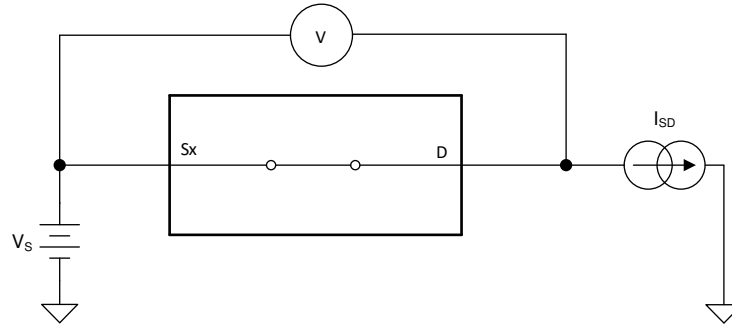

图 7-1. On-Resistance Measurement Setup
The on-resistance of a device is the ohmic resistance between the source (Sx) and drain (D) pins of the device. The on-resistance varies with input voltage and supply voltage. The symbol R_{ON} is used to denote on-resistance. 图 7-1 shows the measurement setup used to measure R_{ON} . Voltage (V) and current (I_{SD}) are measured using this setup, and R_{ON} is computed with $R_{ON} = V / I_{SD}$: